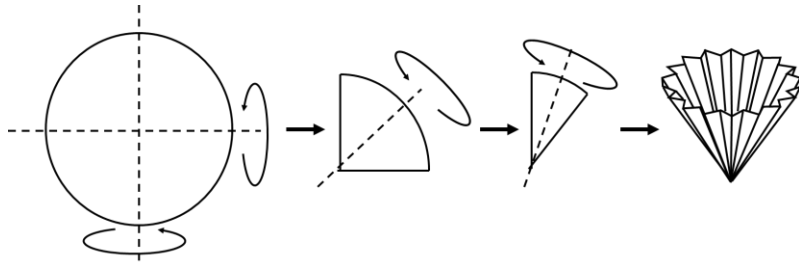
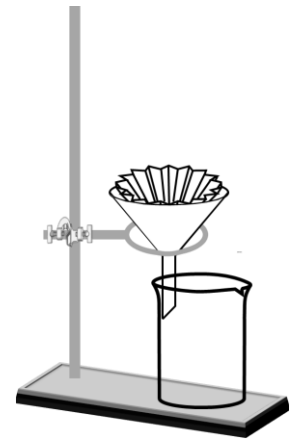

Figure 2
Figure 3
6. Assemble a filtration apparatus as shown with a folded filter paper like a coffee filter (Figure 2) in the funnel and with Beaker 2 under the funnel (Figure 3). Note: Make sure the long end of the tapered tip of the funnel touches the inner wall of the beaker for faster drain.